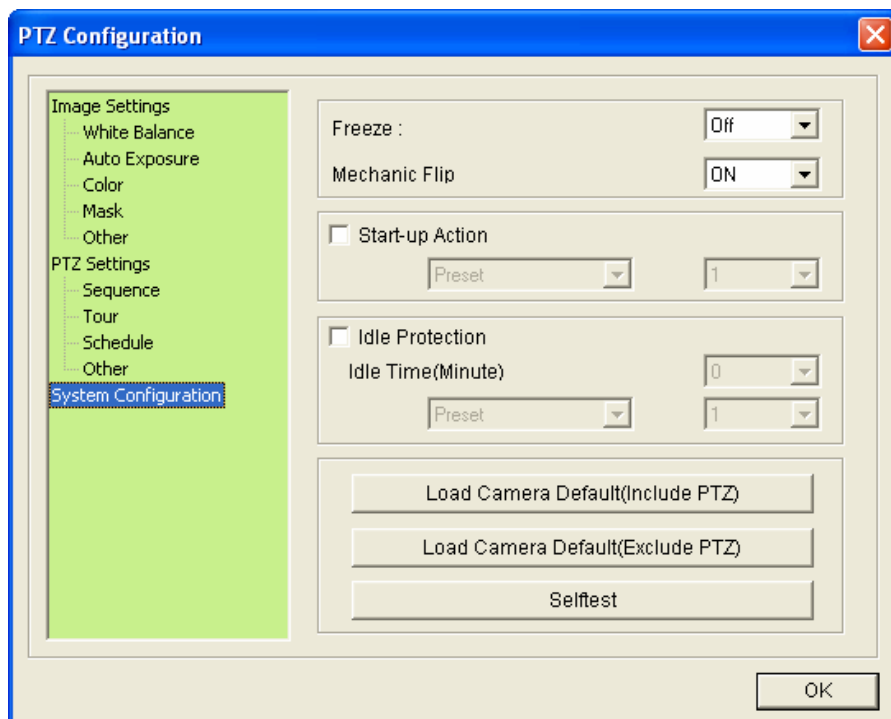

Figure 4-13
- **Load Camera Default (Include PTZ):** Click the button to restore default settings to all the settings in PTZ Configuration dialog box (Figure 4-13).
- **Load Camera Default (Exclude PTZ):** Click the button to restore default settings to Image Settings and System Configuration in PTZ Configuration dialog box (Figure 4-13).